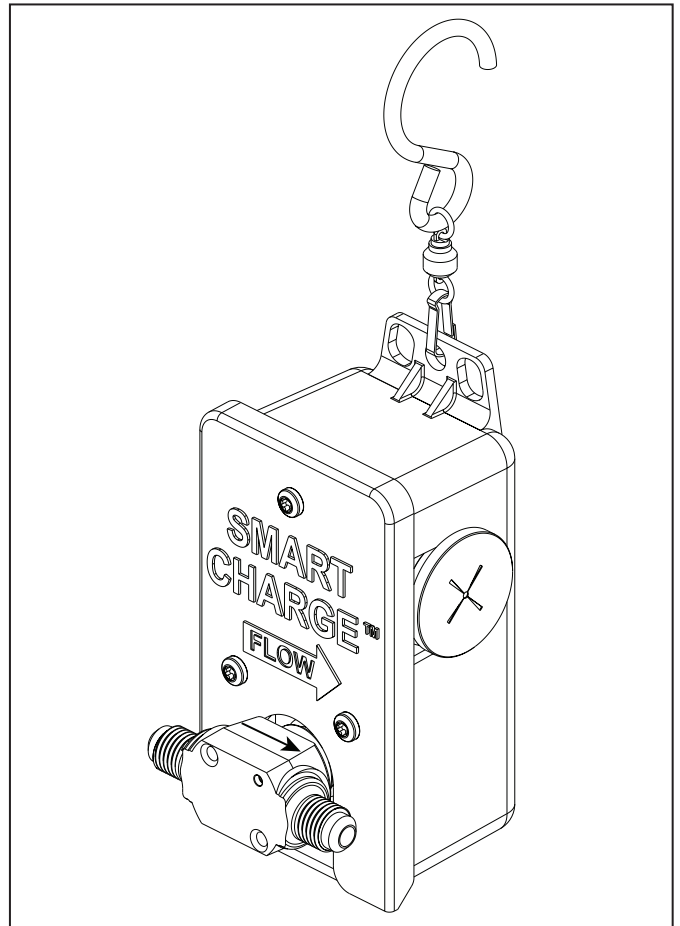

Figure 1: SmartCharge™ Tool
1. Verify that the solenoid flow arrow is pointing in the direction shown in Figure 1.